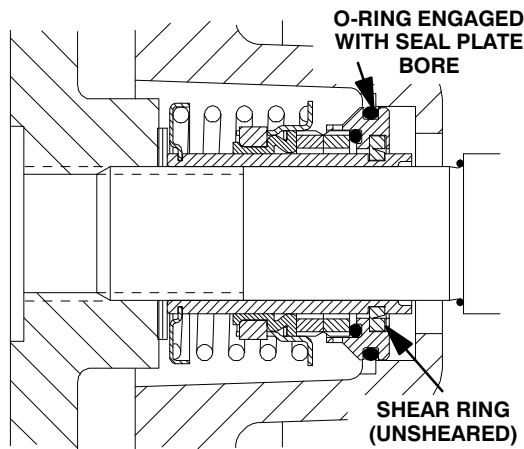

Figure 12. Seal Partially Installed
Clean and inspect the impeller as described in **Impeller Installation and Adjustment**. Install half of the set of impeller shims (25) provided with the seal, and screw the impeller onto the shaft until it is seated against the seal (see Figure 12).